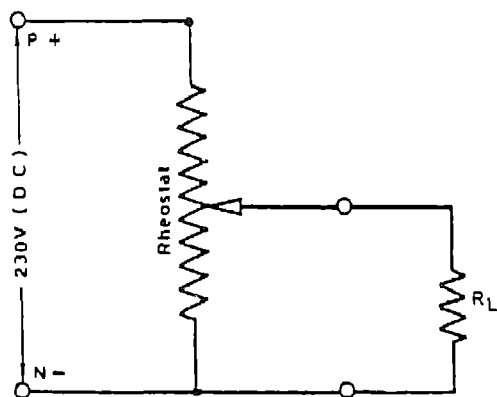
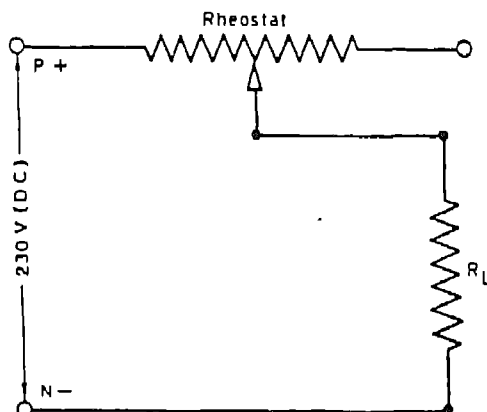

Fig. 3.5
Fig. 3.6
- (iv) Discuss the difference between Fig 3.5 and Fig 3.6 to vary the output voltage across R_L